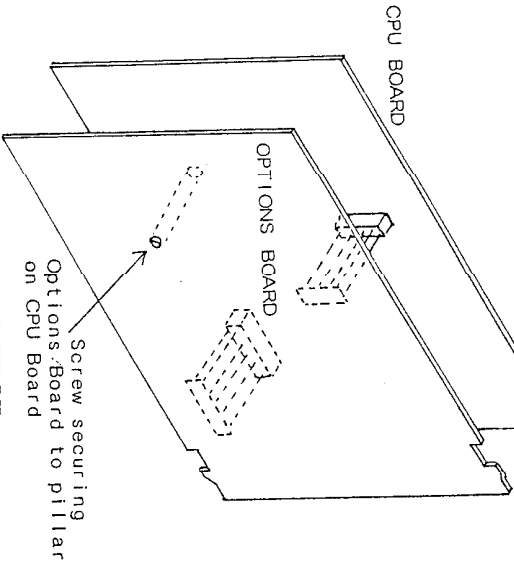

FIGURE 5-2 - SEPARATING THE PCBs
- 3) Extract the screw securing the Options Board to the pillar on the CPU Board (See Figure 5-2), then pull the two boards apart, keeping them parallel to avoid bending the plugs and sockets which link them.